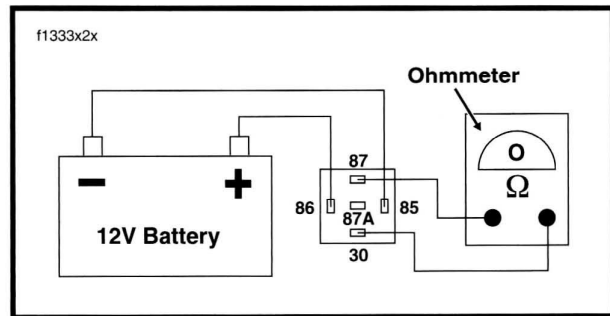

Figure 5-3. Starter Relay Test
2. To energize the relay, connect the battery leads to terminals 86 and 85. See Figure 5-3.